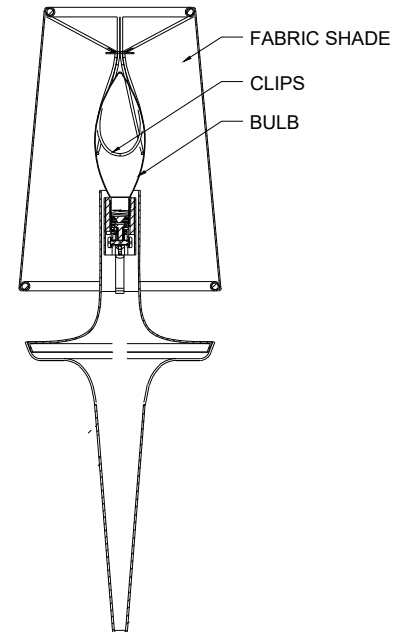

FIGURE-04
10. Attach the fabric shade to the fixture by fastening its clips onto the bulb. (SEE FIGURE-04)